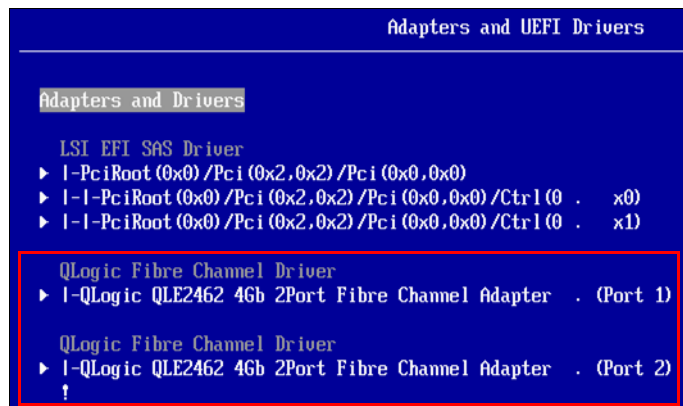

Figure 6-28 Adapters that are listed in UEFI
- ▶ Check if UEFI recognizes the adapter. Select **UEFI** → **System Settings** → **Adapters and UEFI Drivers**. The Adapters and UEFI Drivers panel opens, as shown in Figure 6-28. The “Card - HBA” option must be listed. If the option is not listed, reflash the UEFI, IMM, and Firmware of the HBA and check again.